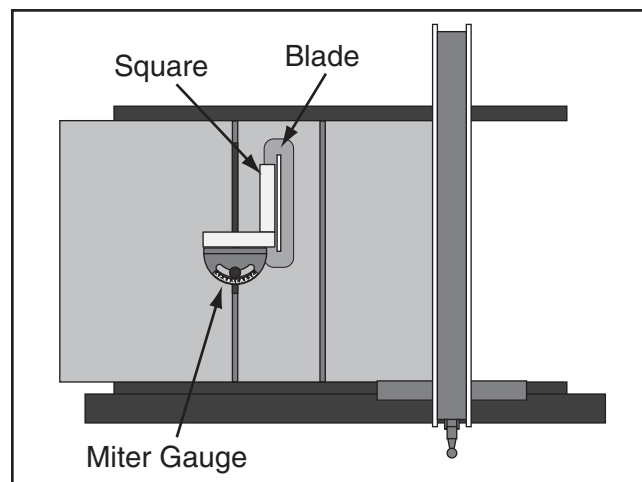

Figure 91. Checking 90° stop on miter gauge.
4. Place the square evenly against the face of the miter gauge and the blade, as shown in **Figure 91**.